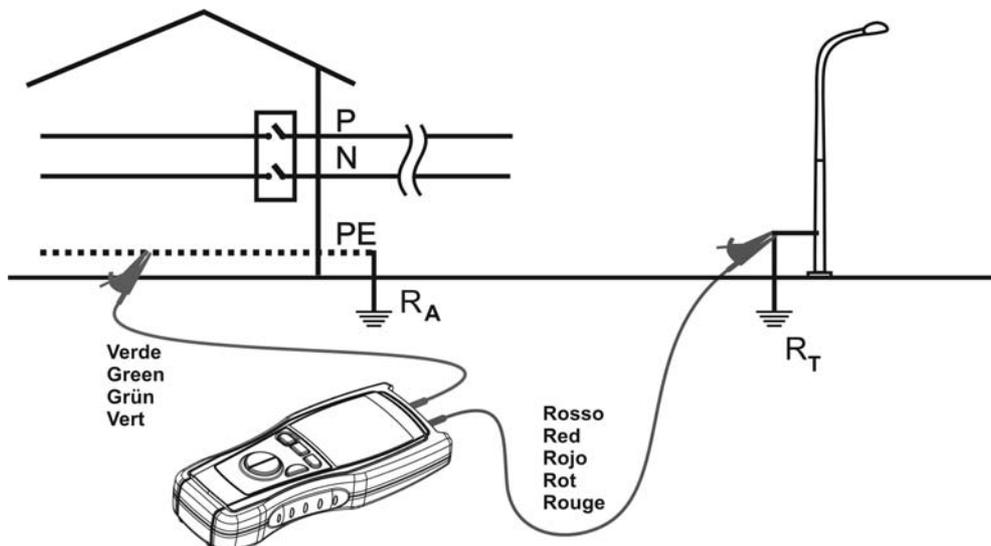
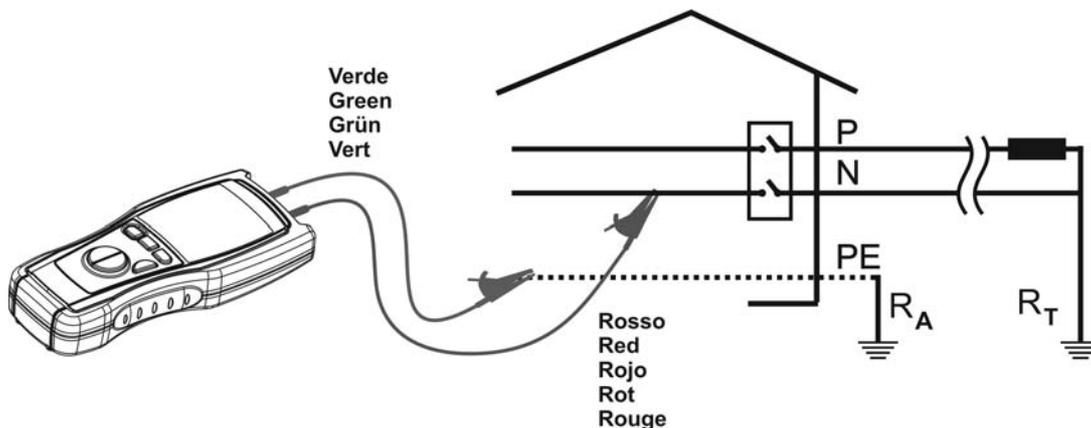

Fig. 3: Example of instrument's wiring for two-wire earth measurement
Fig. 4: Example of instrument's wiring for two-wire earth measurement (only for TT systems).
- In Fig. 3 a lamp post is used as auxiliary rod. However a water pipe or any metal body driven into the ground is suitable provided that the above mentioned requirements are met
- Only in case of a TT system a neutral conductor can be used as auxiliary earth rod (see Fig. 4).
7. Connect the instrument's terminals to the circuit under test (see Fig. 4 and Fig. 3).